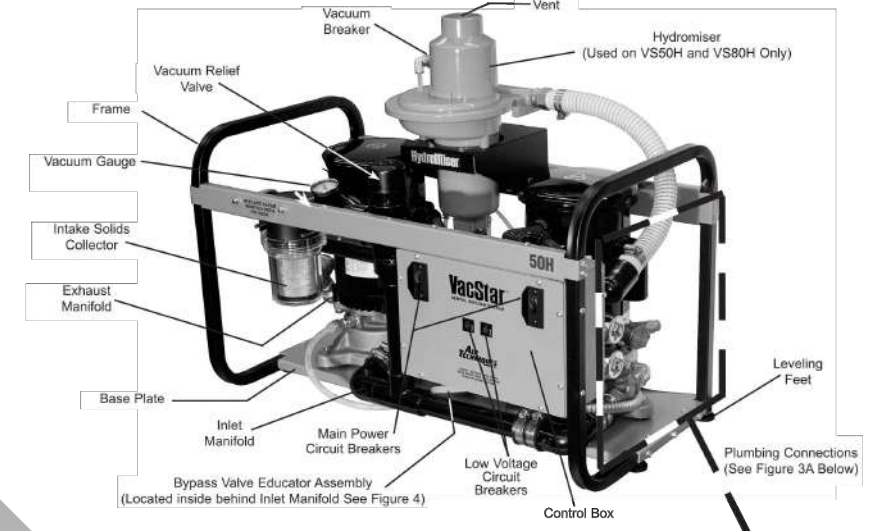

Figure 2: VacStar 50, 50H, 80 and 80H Parts Location
- For VacStar twin pump units, suction hose is connected at suction intake, found on intake solids collector assembly. See Fig. 2.